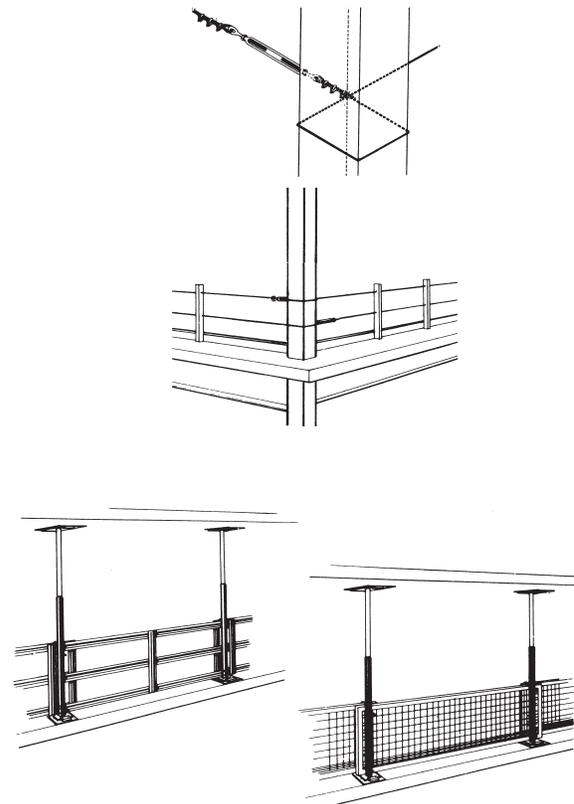

Figure 18-2: Wire Rope Guardrail System (top) and Manufactured Safety Fences
Wire rope and manufactured guardrail systems and fencing can also be used if they are as strong and durable as wooden guardrails with the same minimum dimensions (Figure 18-2). Ensure all manufactured guardrail systems meet the regulatory requirements and are installed according to the manufacturer's instructions. Specifications for wire rope guardrail systems can be found in section 26.3(8) of the construction regulations.